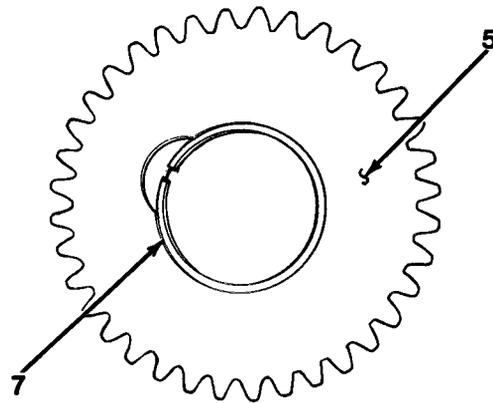

Figure 11-15
23. Install six clutch separator plates (11), clutch plates (10) and clutch plate retainer (9).
24. Install snap ring (8).
25. Install snap ring (7), if removed, into forward and rear welded assembly (5, Figure 11-15).